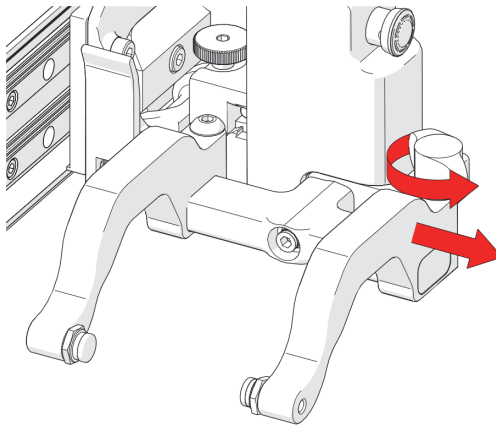

Figure 2-104 Remove outer arm
2. Loosen the probe holder adjustment knob and remove the outer probe holder arm (see Figure 2-104 on page 115).